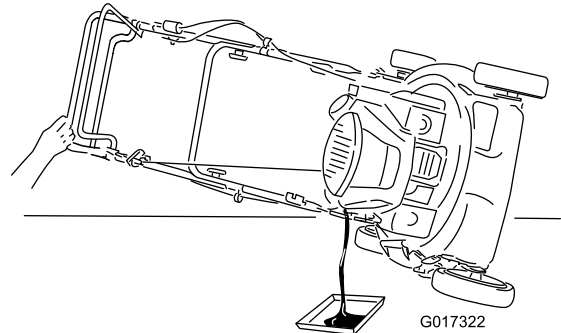

Figure 18
3. Tip the machine onto its side, with the air filter up, then remove the dipstick to drain the used oil out through the oil-fill tube (Figure 18).